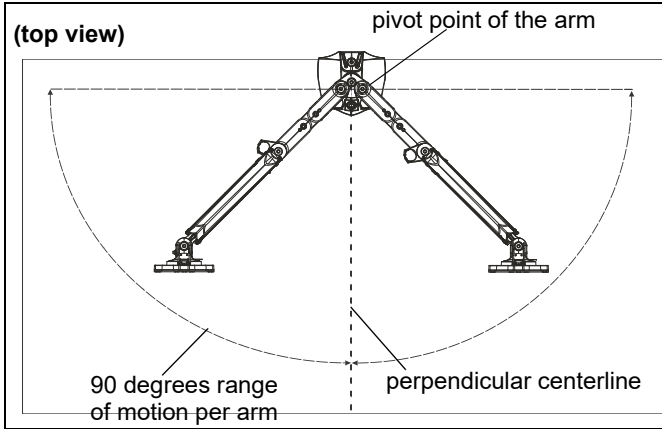

Figure 21
1. Adjust arm angles as desired within a 90 degree range from the pivot point of the arm and a perpendicular centerline of mount. (See Figure 21)